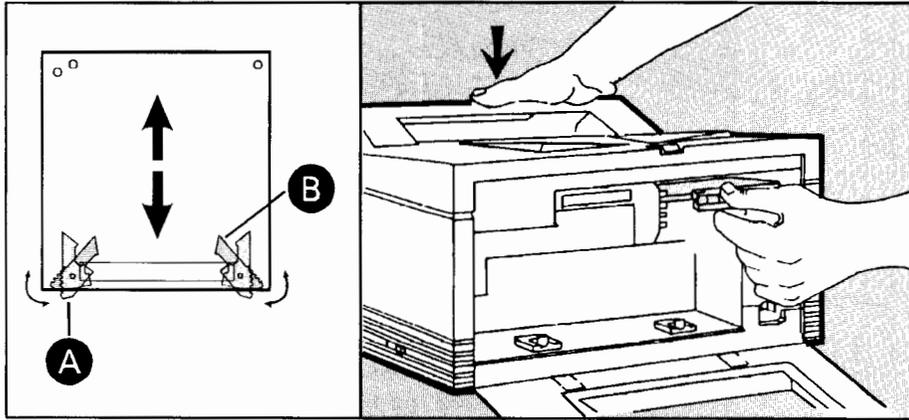

Figure F-6. Seating the First Board
9. Fully seat the board by holding the printer with your free hand and **firmly** pushing against the flat green plastic area (see figure F-6). When the board is fully seated, the green tabs on the memory board move from position (A) to position (B) and no longer move.